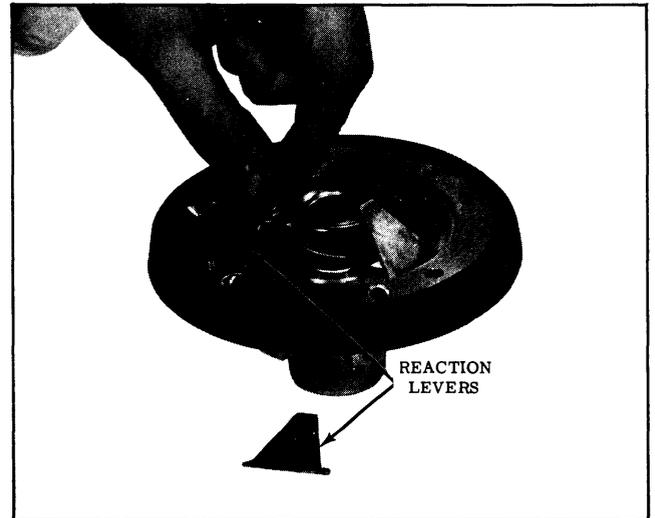

Fig. 7-30 Installing Reaction Levers
5. Place reaction levers in vacuum piston. (See Fig. 7-30)